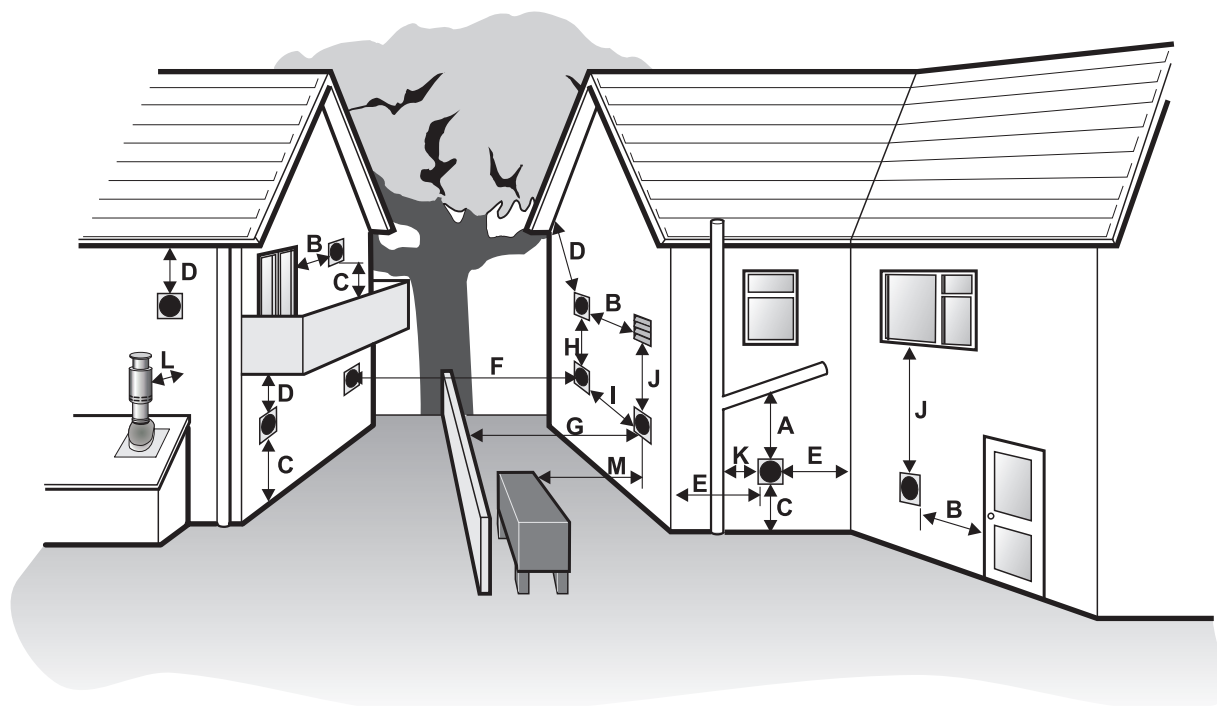

Fig. 11 - Clearances for Balanced flues
- 3 The flue terminal must be at least 600 mm from any opening into the building, and 600 mm above any vertical structure or wall less than a horizontal distance of 750 mm from the terminal. See Fig. 11.
The minimum dimensions for locating the terminal from building features (windows, doors, etc.) are shown in Fig. 11.